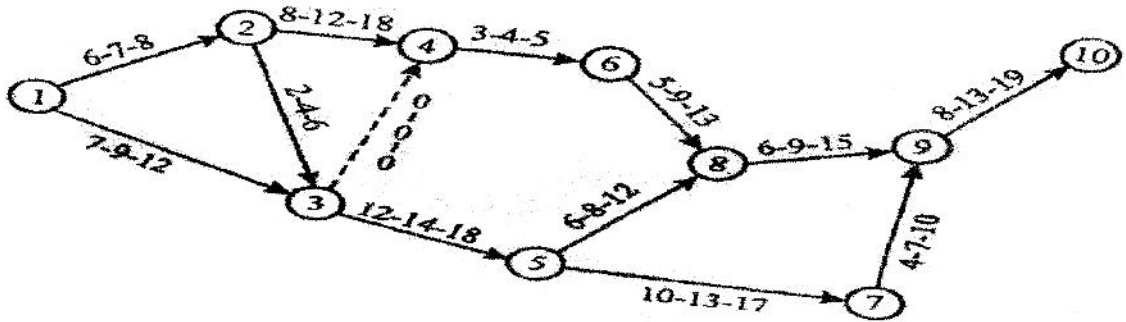

Fig. 3
The 3 time estimates are indicated along the activity arrows for the project shown above (Fig.3). Calculate (1) the expected or the avg. time t_E & the variance for each activity, (2) the earliest expected time & (3) the latest allowable occurrence time for each event. Make the entries in a tabular form. Also enter the last 2 values against the respective event circles.